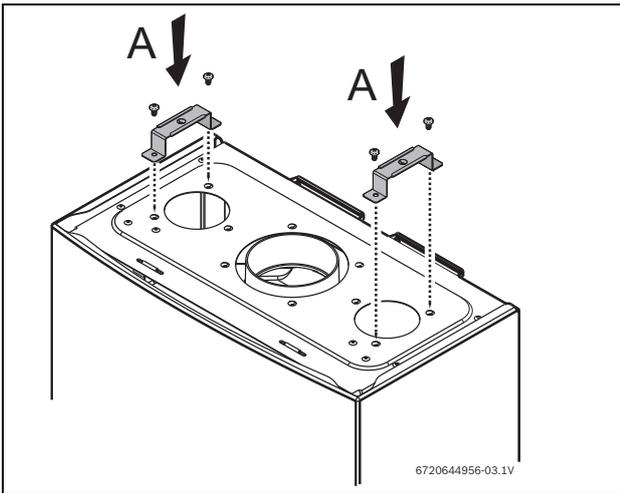

Fig. 8
- ▶ **1.** Attach the supports (A) to the appliance by fastening with the four provided screws, as shown in Fig. 8.